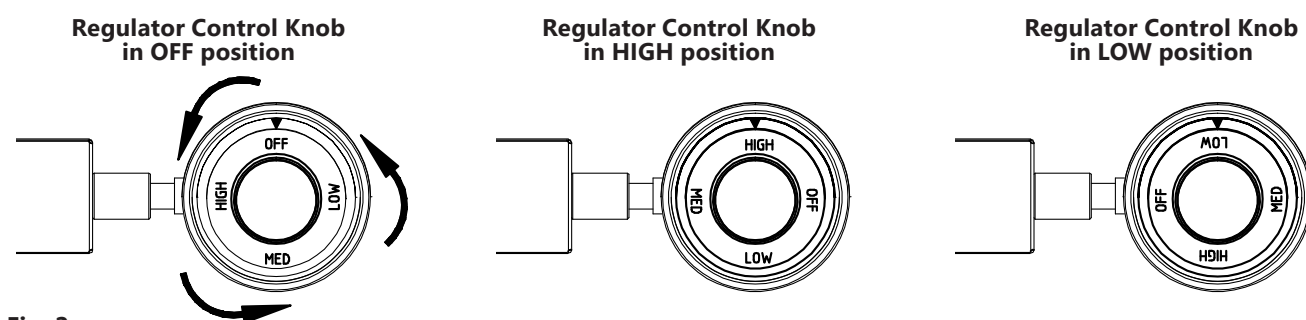

Fig. 2
2. Push the regulator knob in and turn 270 degrees (or 3/4 turn) counterclockwise to the "HIGH" position (Fig. 2). Note the triangular indicator mark on the silver regulator housing.